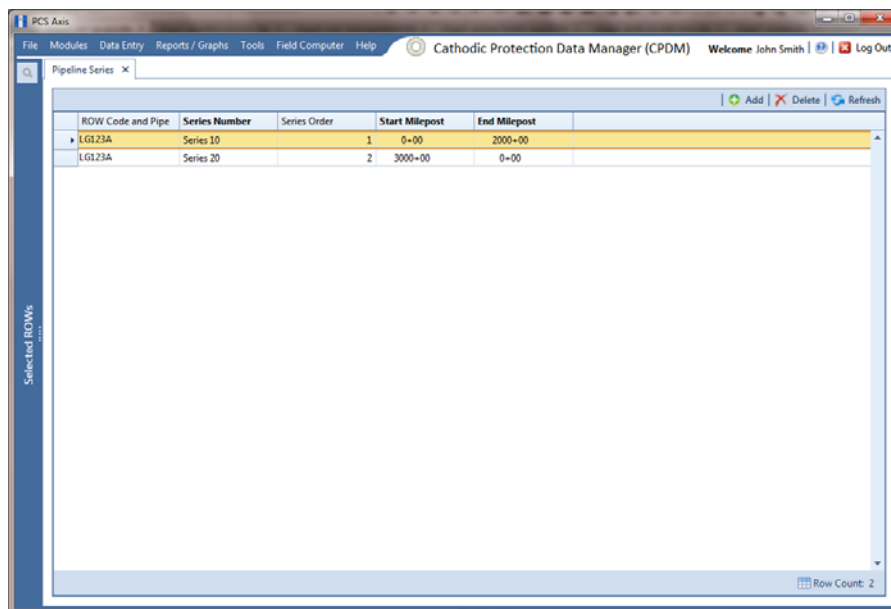

Figure 2-42. Pipeline Series
- 7 Set the *Pipeline Series* start and end milepost numbers. Type the starting milepost in the **Start Milepost** field and the ending milepost in the **End Milepost** field (Figure 2-42).